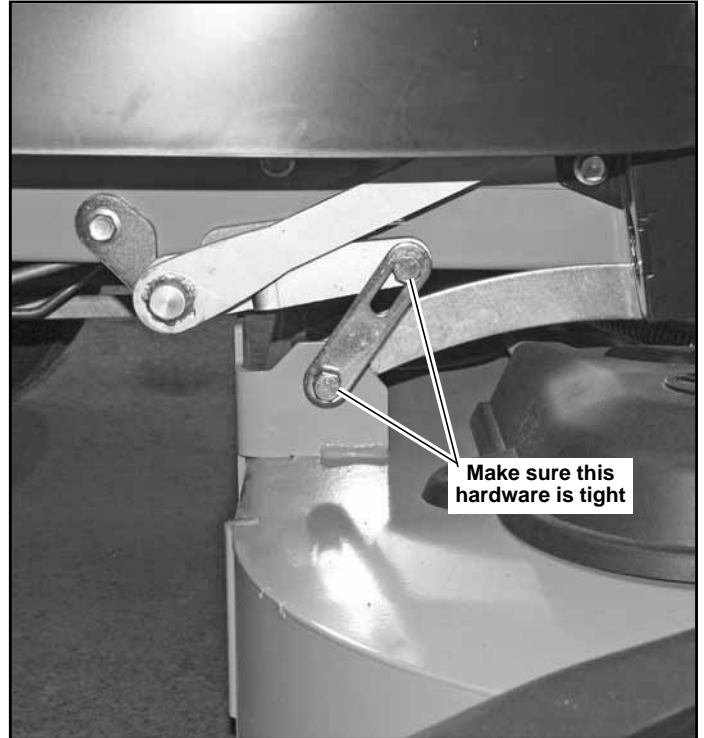

Figure 6-2
4. Make sure all deck hardware is tight on the right rear of the deck. Figure 6-2